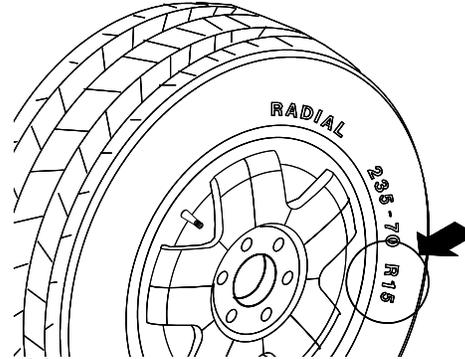

Figure 24
4.5.3 Rim Diameter Entry - Select the Manual Diameter button (#11 page 9). Read the rim diameter marked on the sidewall of the tire (Figure 24). Press the Diameter Button and enter the measured rim diameter by rotating the shaft until the desired value appears in the right display.